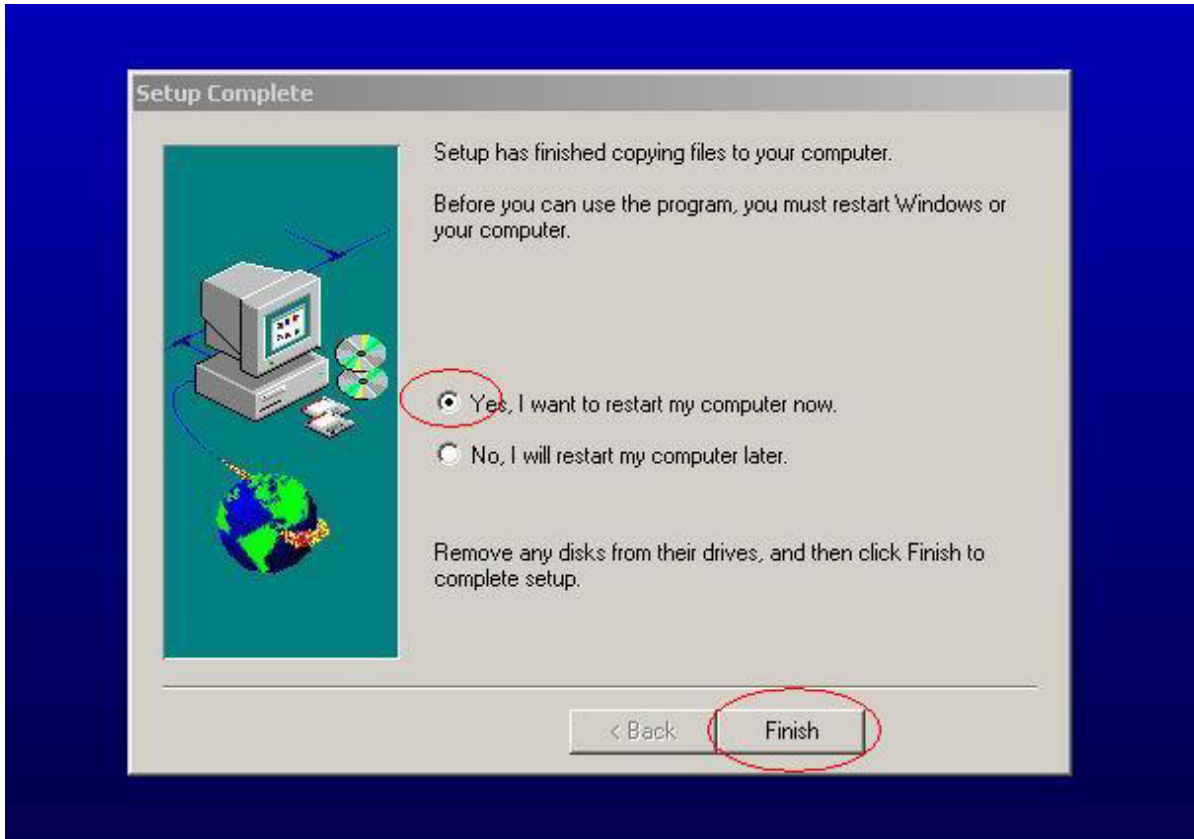

Fig. 0.5
6. Install completed , restart the PC or notebook. See Fig 0.5